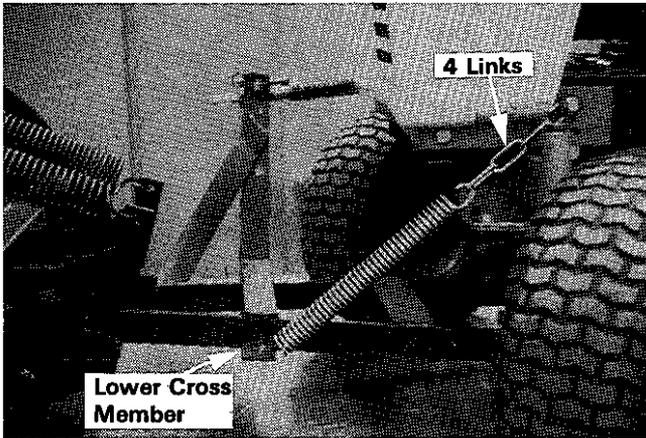
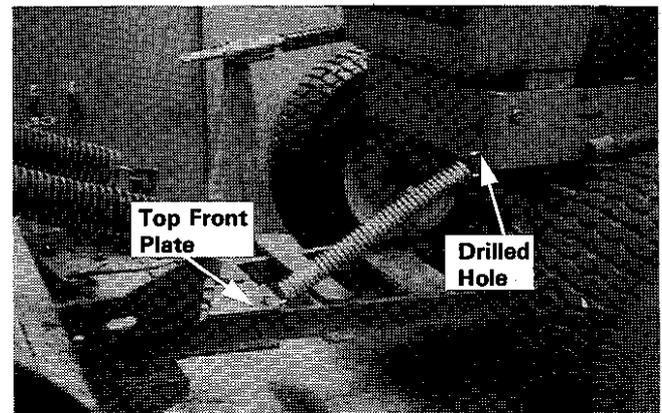

Figure 7A. 42" Blade - Group 1
Figure 7E. 46" Blade - Group 3
For 46" blades on Group 3 and 4 tractors, drill a **.406"** hole in the (top) front plate. Hole should be located **2-3/4"** left of centerline and **1/2"** forward of the plate rear edge. (Refer to figures 7E and 7F.)
- Raise the push bar and hook up one end of spring to chain or frame as shown in figures 7A through 7F. Hook other end of spring to hole drilled in hitch cross member (figure 7A-7D) or top front plate (figure 7E-7F).
### Figures 7A thru 7F. Spring Installation